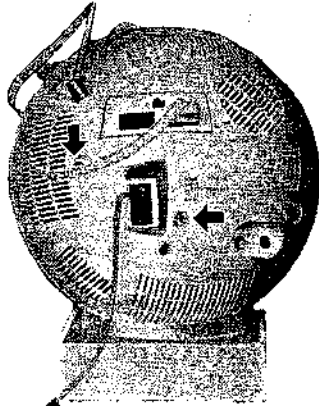
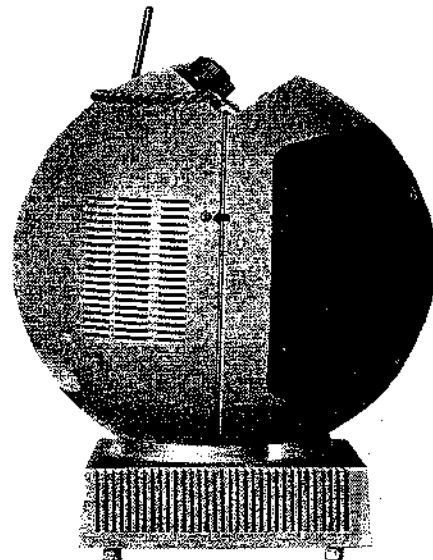

Fig. 1
Fig. 2
1. Remove 2 screws on rear cover (Fig. 1) and 5 screws fastening the edge of rear cover (Fig. 2).